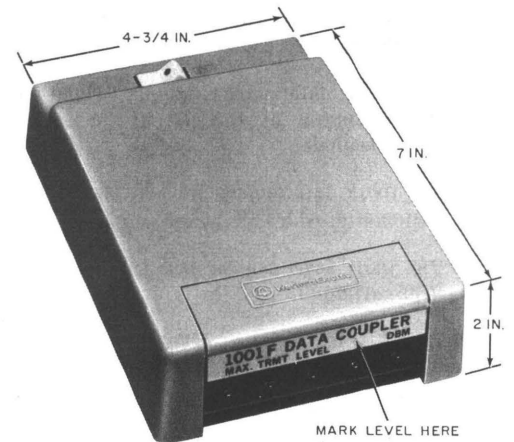

Fig. 1—1001F Data Coupler
5.11 Using the values obtained in 5.09 (7) and 5.10 (7), refer to Table C and apply straps as indicated. Mark the maximum input limit on the data coupler as determined in 5.09 (7) (Fig. 1).
2.01 The 1001F data coupler (Fig. 1) is a wall-mounted unit measuring 4-3/4 inches wide, 7 inches high, and 2 inches deep. The coupler weighs approximately 1-3/4 pounds and is enclosed in a gray plastic housing. The housing consists of a dark gray base and a light gray cover which snap together. One keyhole slot and one screw hole are provided on the base for mounting the unit on a wall or other vertical surface. ***The coupler must be vertically mounted to allow proper operation of the mercury relay.***